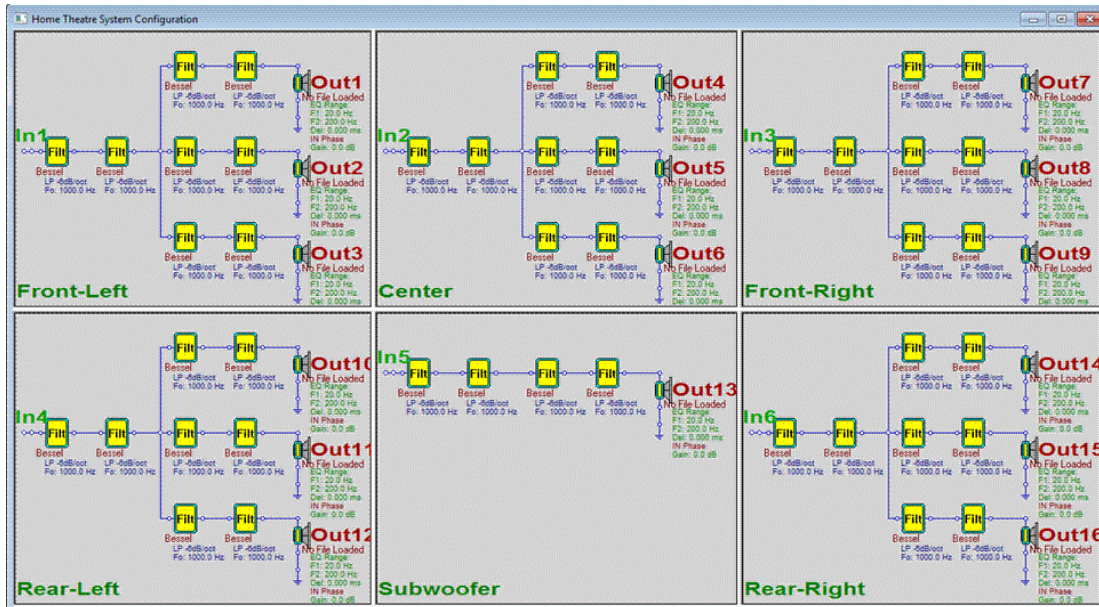

Figure 64. Home Theater 4 option.
- **Home Theater Option 4:** Similar to Option 2 but all front and rear surround speakers are 3-ways. Figure 64.